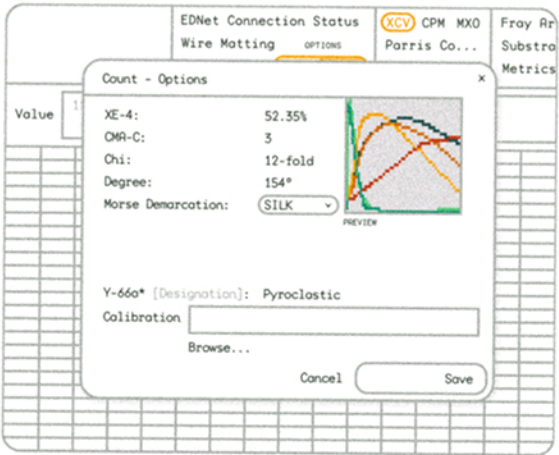

Figure 2. Options popup window for Count.
- Ensure that parameters are approximately the same as those in Fig. 2. The only other modifiable parameter in the Count>Options menu is Morse Demarcation. Its value is SILK by default. If value has been altered, change to SILK.
If CMA-C or Chi differ from their values in Fig. 2: either the probe software was improperly synced with PDS, or there is a critical malfunction in the probe itself. Contact lab manager and refer to the PDS Troubleshooting manual, PID PDSm-4997(a-g) for further guidance.